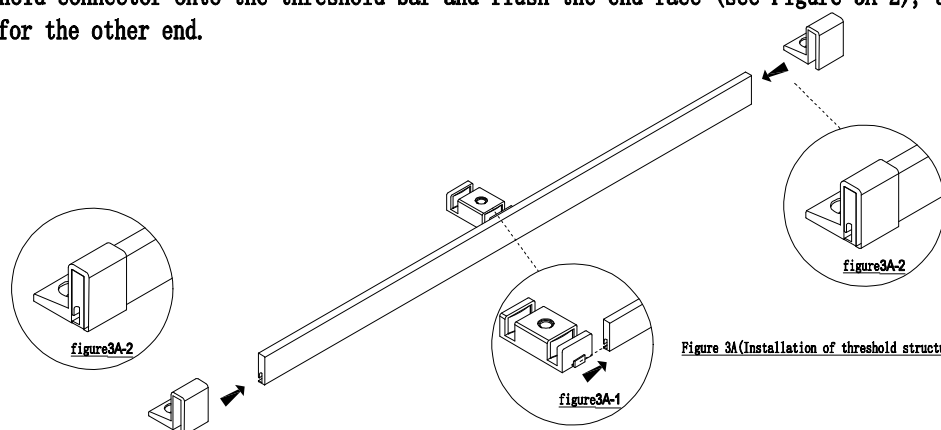

Figure 3A(Installation of threshold structure)
1. Preinstall the threshold according to the configuration — see Figure 3A.
2. Push the guide seat (14) to the middle of the threshold bar (13) — see Figure 3A-1.
3. Clamp the threshold connector onto the threshold bar and flush the end face (see Figure 3A-2), and repeat the same procedure for the other end.